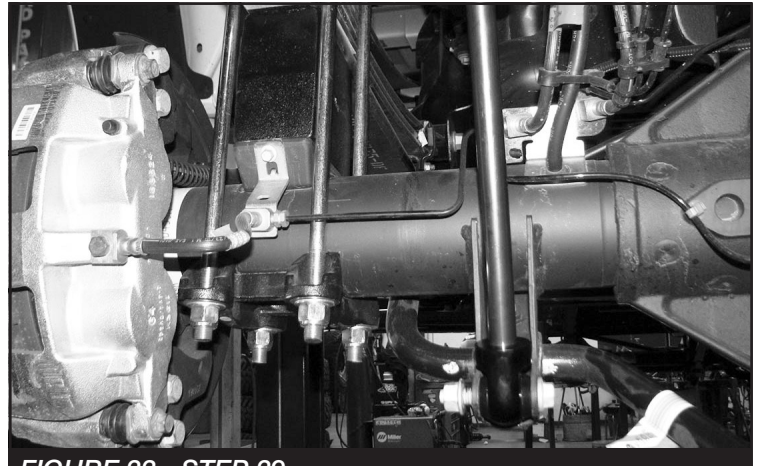

FIGURE 33 - STEP 39
39. Install the new rear shocks FTS7266, FTS6063 or DL FTS810052 using the factory hardware, torque to 90 ft-lbs. **SEE FIGURE 33**